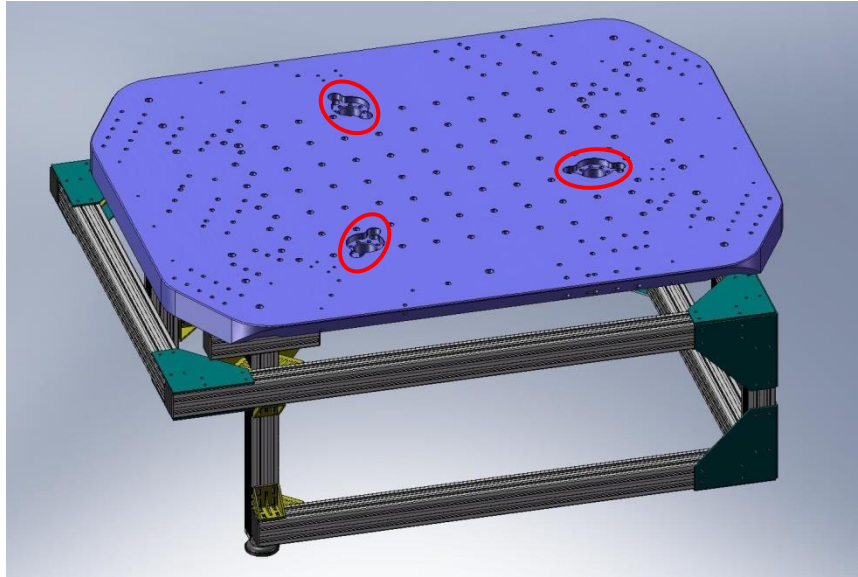
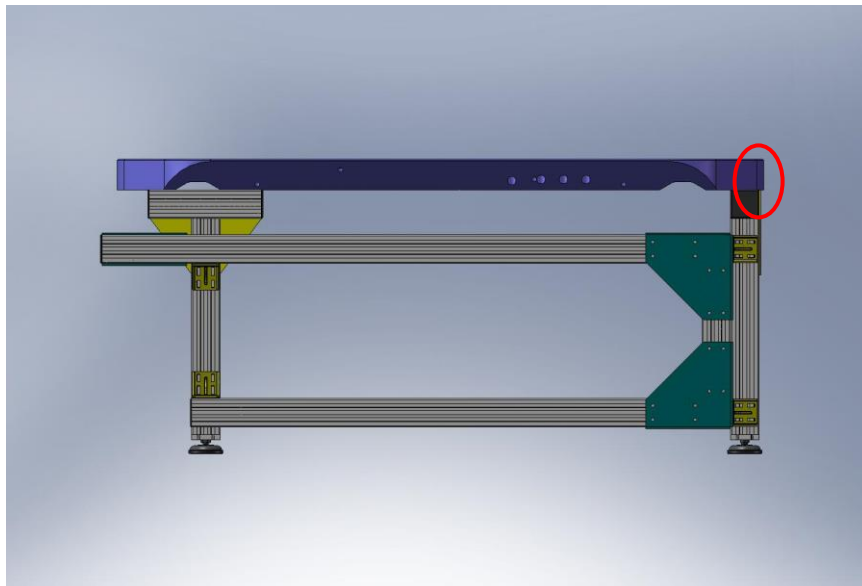

Figure 2.3. Stage 0 Base resting on Assembly Stand. Note orientation of (3) pockets for Spring Pull-Down tooling.
Figure 2.4. Back edge of Stage 0 Base should be close to back edge of Assembly Stand.
- (3) 3/4"-10x2.0*Dia.
- Pick up **Stage 0 Base** and place onto **Assembly Stand**. Orientation should be as shown in Figure 2.3 and Figure 2.4.